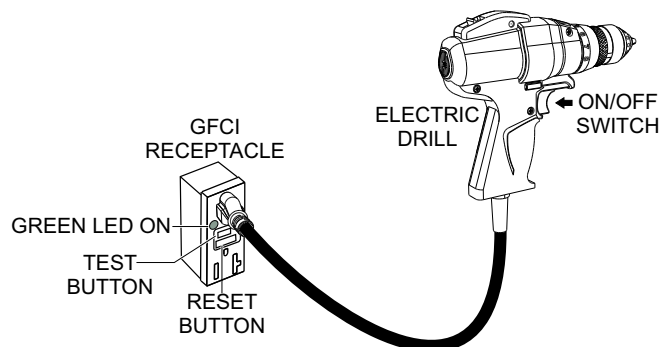

Figure 73. GFCI Receptacle Test
- Verify green LED on the GFCI receptacle (Figure 73) is **ON**.